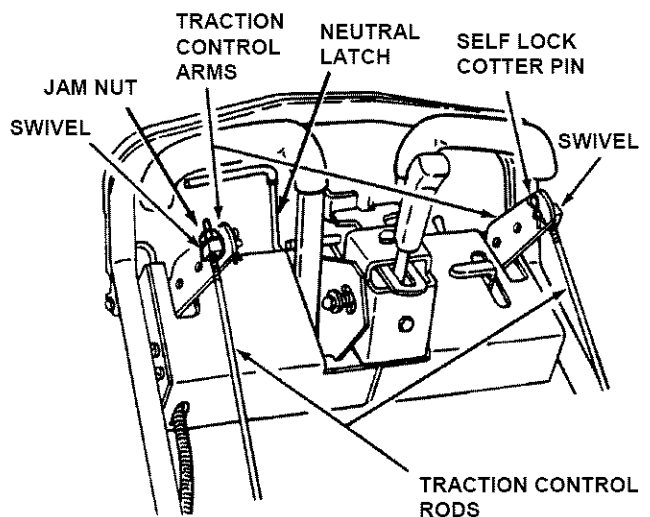

FIGURE 3.7
STEP 2: Place both Traction Levers in the Neutral position and engage Neutral Latch. See Figure 3.7.
STEP 4: Disconnect the swivel from the right and left traction control arms and loosen swivel jam nuts. See Figure 3.7.